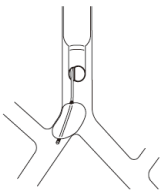

Fig.8
- 1)&2) The above may be attributed to the fact that the blocker cuff has been dislodged into the lumen of the trachea (herniation), narrowing it (Fig.8).
- If such herniation as described in Fig.8 is occurred, hypoxemia can be remedied by simply deflating the cuff.